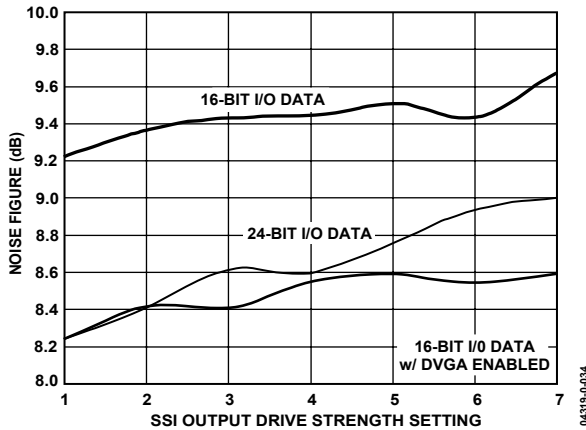
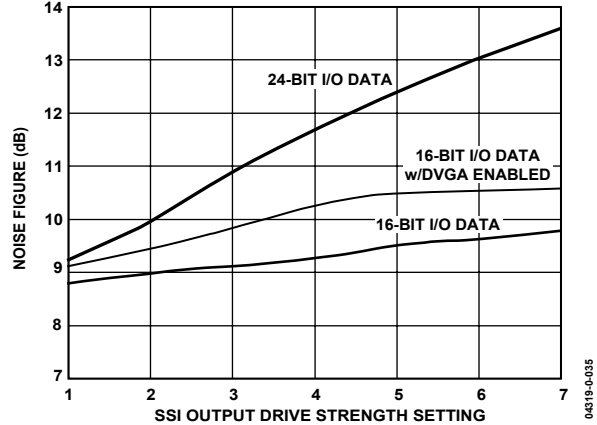

Figure 35. NF vs. SSI Output Drive Strength ($V_{DDX} = 3.0 V, f_{CLK} = 18 \text{ MSPS}, BW = 10 \text{ kHz}$)
Figure 36. NF vs. SSI Output Drive Strength ($V_{DDX} = 3.0 V, f_{CLK} = 18 \text{ MSPS}, BW = 75 \text{ kHz}$)
The AD9864 also provides the means for controlling the switching characteristics of the digital output signals via the drive strength (DS) field of the SSICRB. This feature is useful in limiting switching transients and noise from the digital output that may ultimately couple back into the analog signal path, potentially degrading the sensitivity performance of the AD9864. Figure 35 and Figure 36 show how the NF can vary as a function of the SSI setting for an IF frequency of 109.65 MHz. The following two observations can be made from these figures: